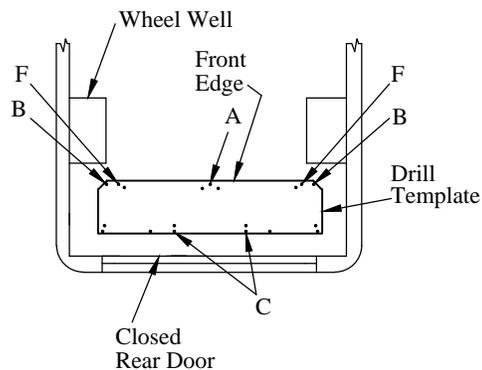

Figure 7: Drill location (top view).
14. **Drill** 3/8" holes in six (6) locations in the template. Drill "B", "C", and "F" locations only, skip all others (Figure 7). Insert a 3/8" bolt into each hole as it is drilled to maintain hole alignment and template position.